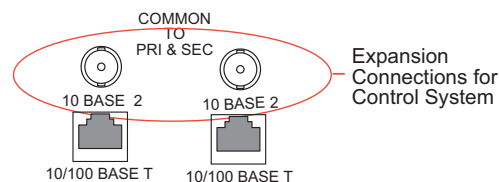

Figure 2-22. Ethernet Expansion Connections to Control System (Rear View)
- 1 Locate the expansion control connection on the rear of the routers, as shown in Figure 2-22. The connections are labeled ‘10 BASE 2’.